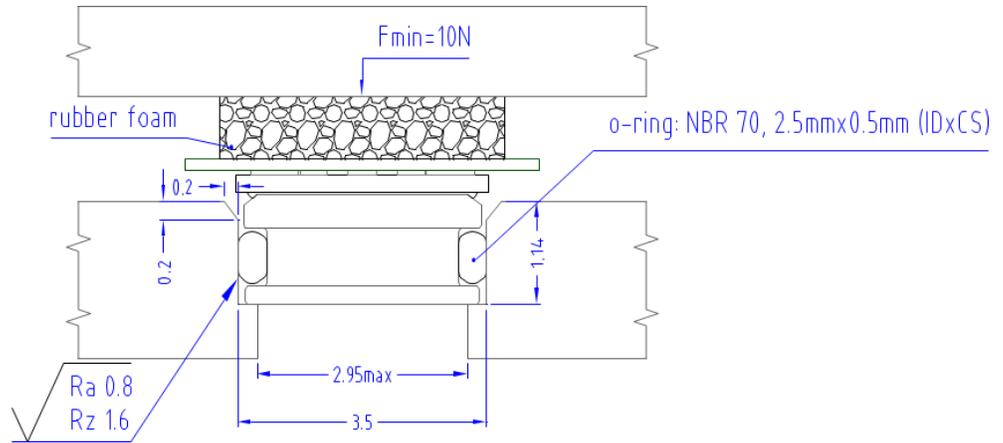

Figure 7. O-ring and Housing Dimensions
1. O-ring has dimensions of 2.5 mm X 0.5 mm. Figure 6 shows an overview of the O-ring. The O-ring thickness is sized in order to fit housing and to apply a sealing force for resisting to 10 bar fluidic pressure according to device specification. Nitrile / NBR is the most common material used for making the O-rings. It is widely used in many applications for fuel and oil resistant system designs. Nitrile compounds are superior to most elastomers because they provide tear, and abrasion resistance. Customer can also choose other material based on their application and housing size. Care should be taken to avoid damage to the O-ring during mounting. Lubrication may be considered if necessary, to facilitate insertion. Below, figure 7, shows the O-ring and sensor body dimensions.